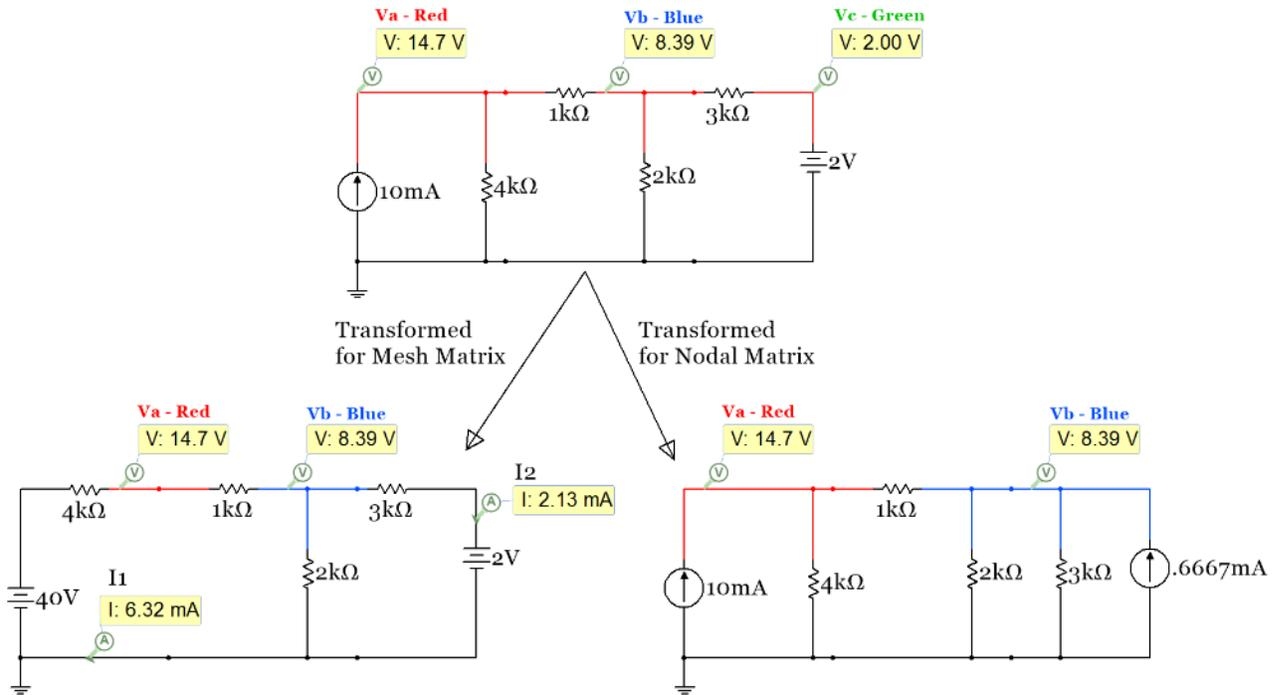

Figure 2.25: Circuit in Figure 2.23 transformed to a circuit with only voltage (left) or current sources (right).
Multisim probes for I1 and I2 are also shown in the bottom left circuit in Figure 2.25 because we will first get these values from Mesh Matrix analysis and use them along with Module 1 techniques to find  $V_A$  and  $V_B$ .
These current values match the Multisim probes in Figure 2.25. Now  $V_A$  and  $V_B$  are calculated as follows:
- 4) **The diagonal of the A matrix (cells  $A_{11}, A_{22}, A_{33}$ , etc.) is populated by adding the conductance value of each resistor touching the corresponding node.** For example,  $A_{11}$  for the circuit in Figure 2.25 is the sum of all of the conductance values of the resistors touching Node A.  $\rightarrow A_{11} = (1/4000 + 1/1000)$
- 5) **The off-diagonal cells of the A matrix always have a negative sign and are populated by adding the conductance value of each resistor touching the 2 nodes that correspond to the cell and multiplying the sum by -1.** For example, the  $A_{12}$  cell (which can also be thought of as the  $V_{AB}$  cell) in the matrix is found by adding the conductance value of each resistor touching both nodes A and B and multiplying the sum by -1. Like described for the Mesh Matrix method the A matrix is symmetric. An example calculation is  $A_{12}$  for the circuit in Figure 2.25. It is the sum of all of the conductance values touching both nodes A and B (multiplied by -1).  $\rightarrow A_{12} = A_{21} = - (1/1000)$